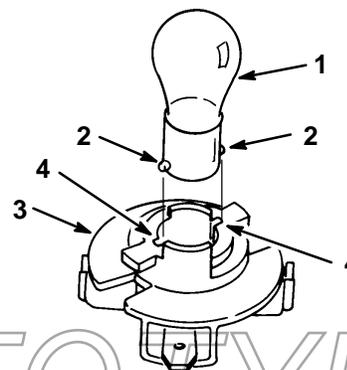

**Figure 17**
3. Rotate the bulb holder 1/4 turn counterclockwise and remove it from the reflector (Fig. 17).
2. The bulb holder has two tabs (Fig. 17). Align the tabs with the slots in the reflector, insert the bulb holder into the reflector and rotate it 1/4 turn clockwise until it stops.